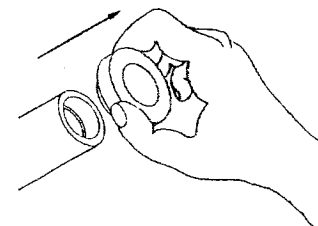

Fig. 8
F. Slide the plastic bearing out of the bottom of the agitator assembly ( See Fig. 8).